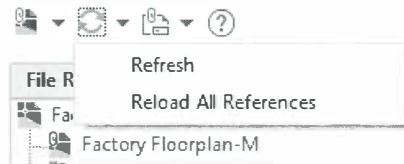

Figure 11–15
- **Reload All References** (shown in Figure 11–15) updates all of the references in a drawing so that you are using the most up-to-date versions that have been saved.
Once you have made changes to an Xref, you can now compare the original and the modified Xref. By comparing the two Xrefs, you can now identify the modifications that were made to the drawing file that is attached as an external reference in the current drawing. The differences in the changed Xref are highlighted by a revision cloud. The comparison can be started by selecting **Compare** in right-click menu as shown in Figure 11–16.